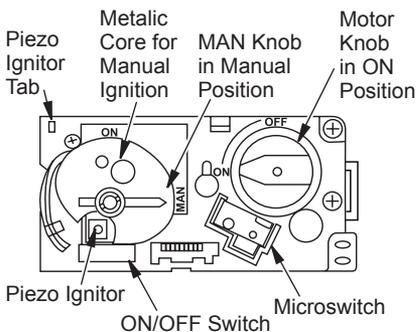

Figure 18 - PJD Control Valve
4. Wait (5) minutes to clear any gas and then smell for gas around heater and near floor. If you smell gas, STOP! follow "B" on page 16. If you do not smell gas, go to the next step.
5. Make sure ON/OFF switch is in "-" (ON) position.
6. MAN knob (valve) in MAN position, a metallic core is visible. (see Figure 18).
1. Disconnect ignitor cable from receiver and connect to Piezo Ignitor Tab (see Figure 18 and *Wiring Diagram* on page 27).
5. Wait (5) minutes to clear any gas and then smell for gas around heater and near floor. If you smell gas, STOP! follow "B" on page 16.
7. MAN-knob on valve is in MAN position (see Figure 18), When in MAN position you can see a metallic core.